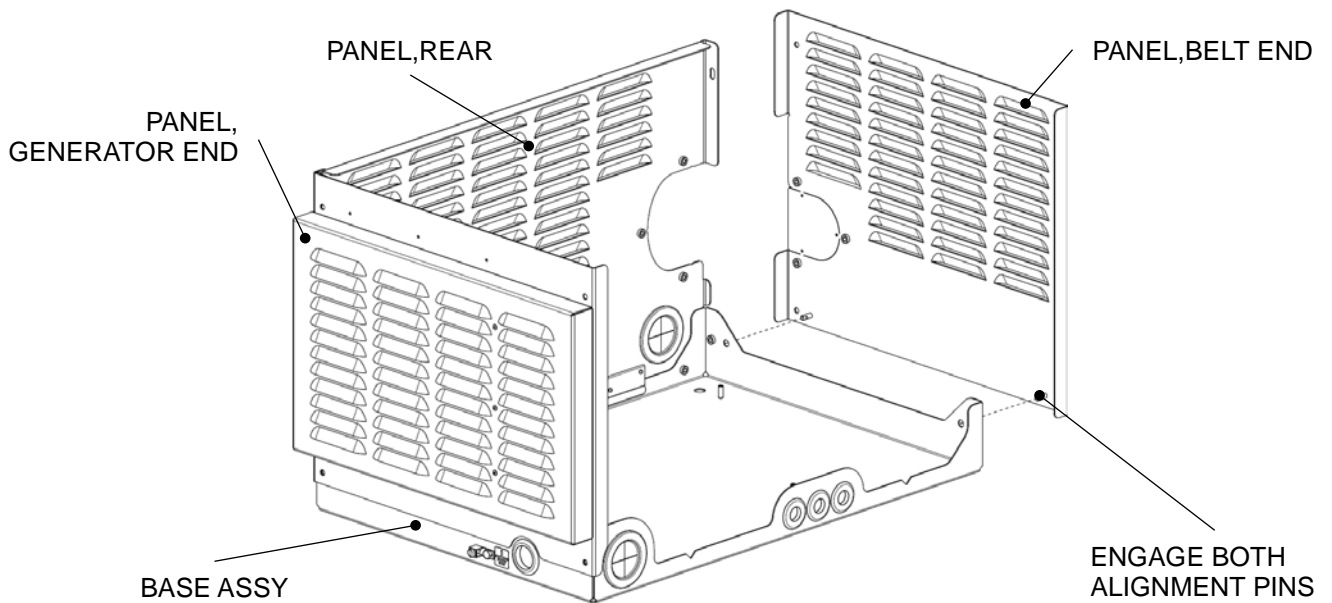

FIGURE 2
3. Install *PANEL, BELT END* onto *BASE ASSY*. Ensure both alignment pins engage. Install and hand-tighten two lower screws (long) with lock washer and washer through *PANEL, BELT END* into *BASE ASSY* (see **FIGURE 2**).